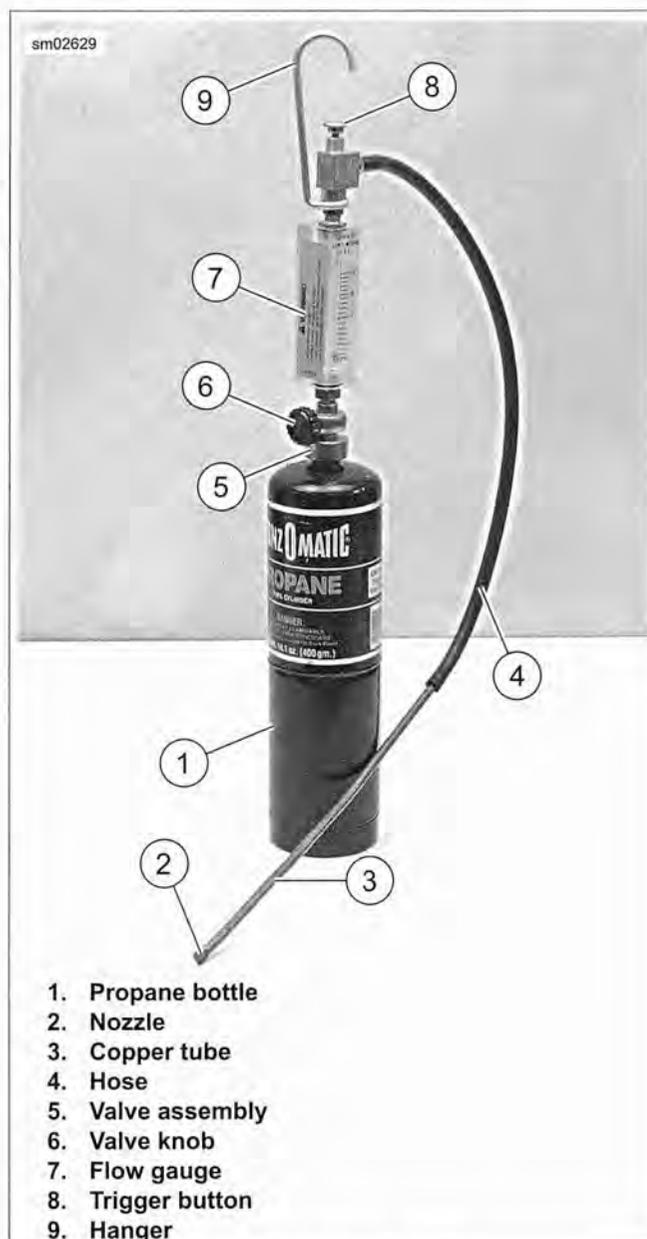

Figure 4-81. Leak Tester
1. See Figure 4-81. Make sure valve knob (6) is closed (fully clockwise).
2. Screw valve assembly (5) onto propane bottle (1).
1. See Figure 4-81. Press and hold trigger button (8).
2. Slowly open valve knob (6) until pellet in flow gauge (7) rises 5-10 SCFH on gauge.